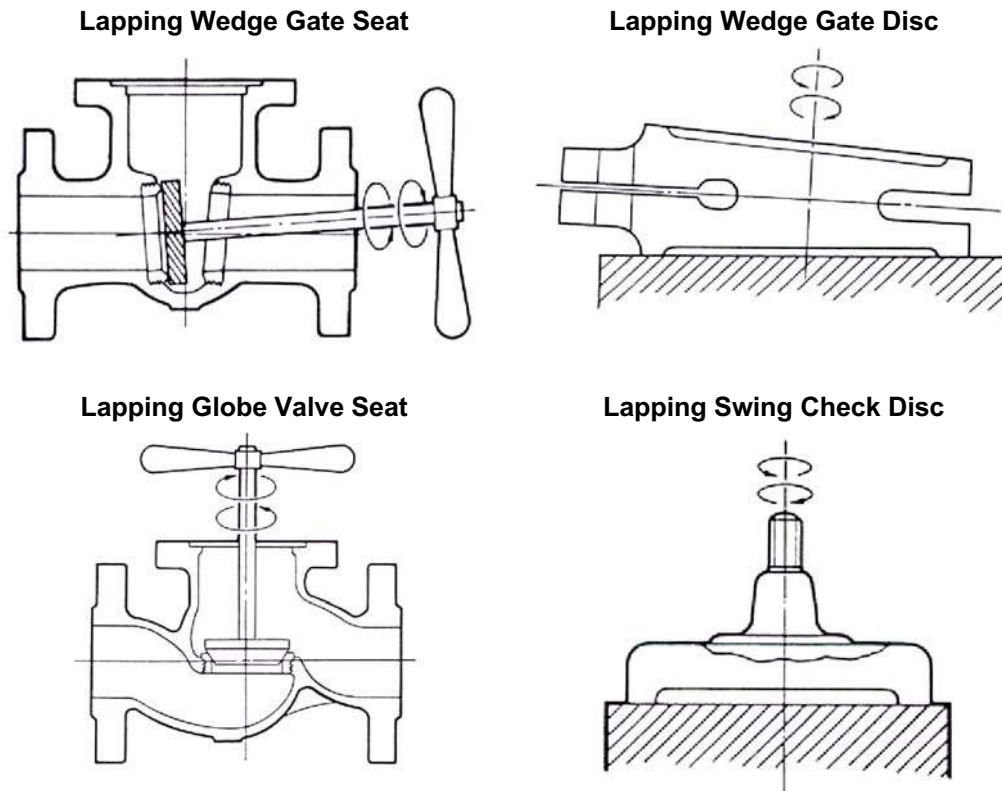

Figure 4
7. Figure 4 shows the various methods for how the lapping plate should contact the valve parts for proper lapping.